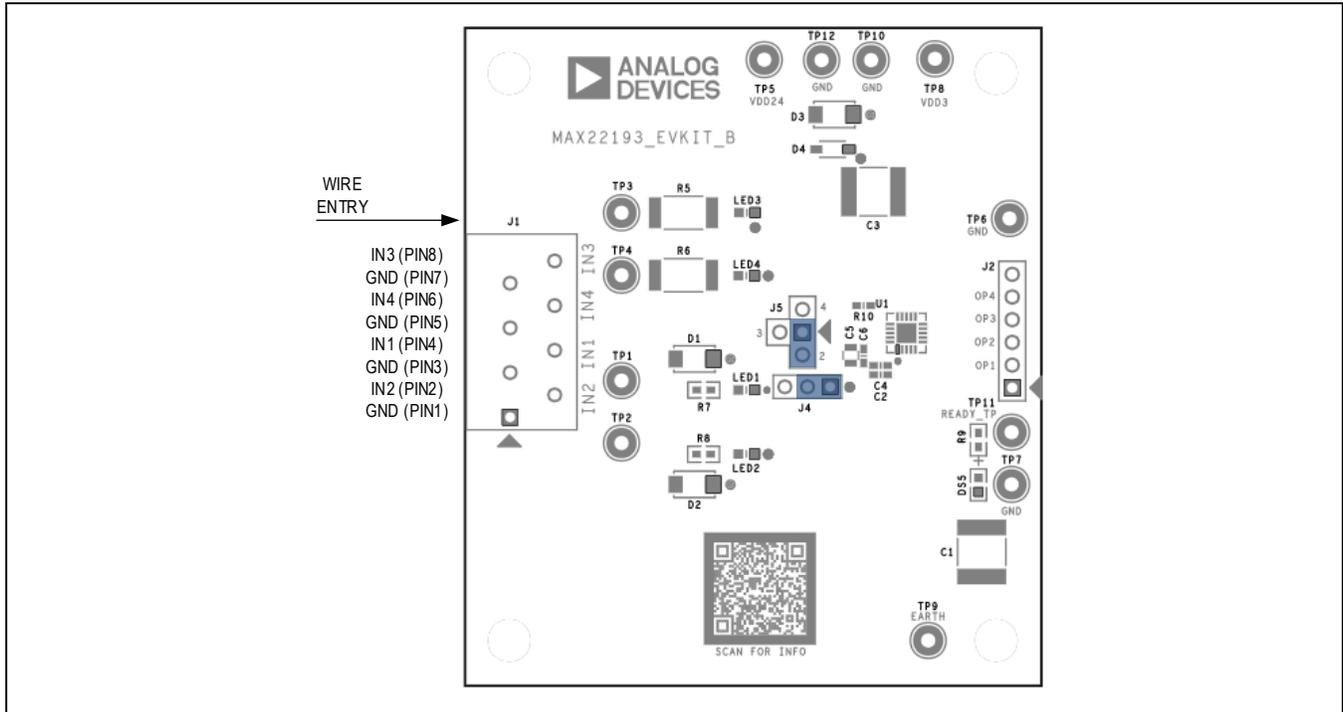

Figure 2. MAX22193 EV Kit Terminal Block Connections, Input Test Points, and Jumper Settings
1. Verify that all jumper settings are in their default positions as shown in Table 1 and Figure 2.